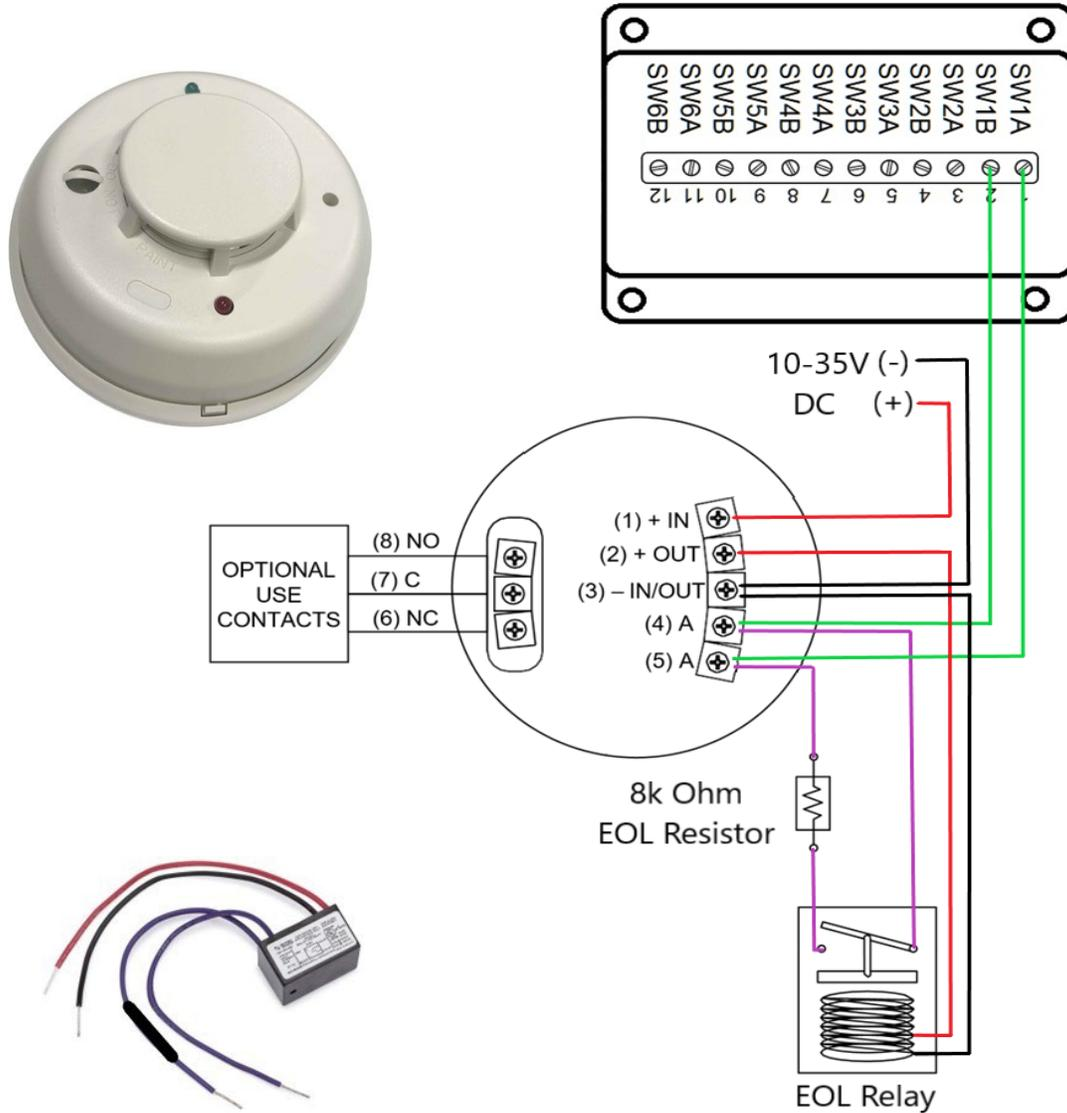

Figure 1 - Wiring Diagram
Please follow these instructions to connect the SH-004 to the NMEA 2000® network via a Maretron SIM100 Switch Indicator Module. The wiring diagram appears in Figure 1 on the reverse side of this page. The diagram shows a connection to channel #1 of the SIM100, but connections to other channels are similar.
1. Connect the SH-004 Kit power terminals (marked as (1) + IN and (3) – IN/OUT) to a 10 - 35 VDC supply that is independent of the NMEA 2000® network power supply as shown in Figure 1. **Do not** apply power until all connections are completed. Powering the unit separately from the NMEA 2000® network allows the detector to work even when the NMEA 2000® network is powered off.
2. Connect the power connection pig tail leads of the End Of Line Relay, Red (Positive Supply) to the alarm contact terminal (2) + OUT, Black (Negative Supply) to the alarm contact terminal (3) - IN/OUT as shown in Figure 1.
3. Connect the SH-004 two alarm contact terminals (marked (4) A and (5) A) to a free switch channel on the SIM100, followed by connecting the purple/violet pig tail leads of the End Of Line Relay to the same terminals. The example in Figure 1 shows the SH-004 smoke/heat detector connected to the SIM100 switch channel 1, terminals (marked SW1A and SW1B) and the relay connections to the End Of Line Relay.